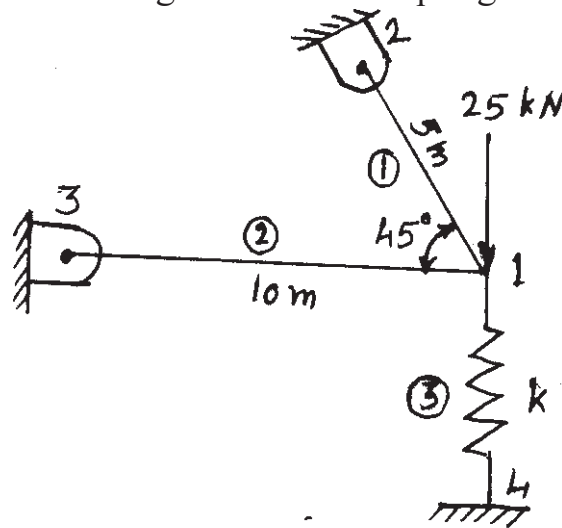

Fig. 1
- Q1) a) Determine the forces in the two-bar truss supported by a spring as shown in fig. 1 Take $E = 200 \text{ GPa}$ and $A = 5 \times 10^{-4} \text{ m}^2$. Bar one has a length of 5m and bar two a length of 10m. The spring stiffness is $k = 2000 \text{ kN/m}$.